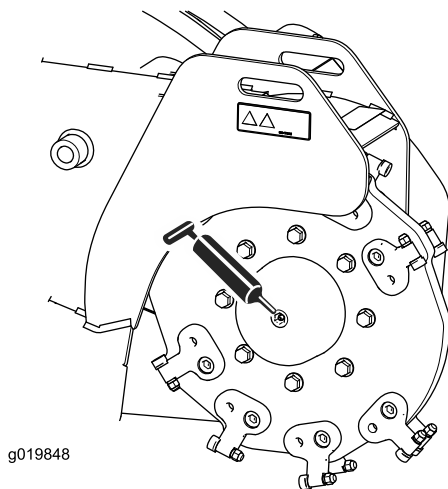
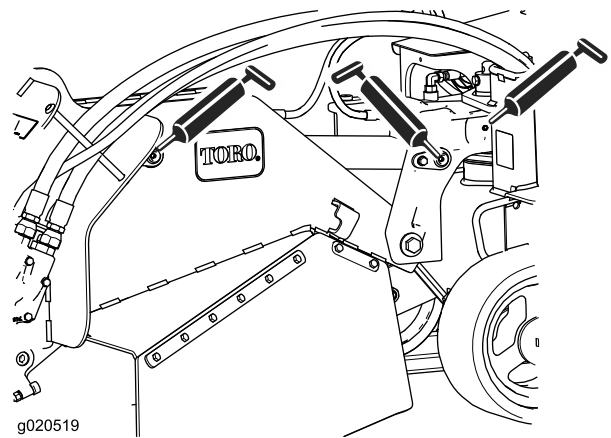

**Figure 26**
**Figure 28**
3. Connect a grease gun to each fitting (Figure 26 through Figure 28).